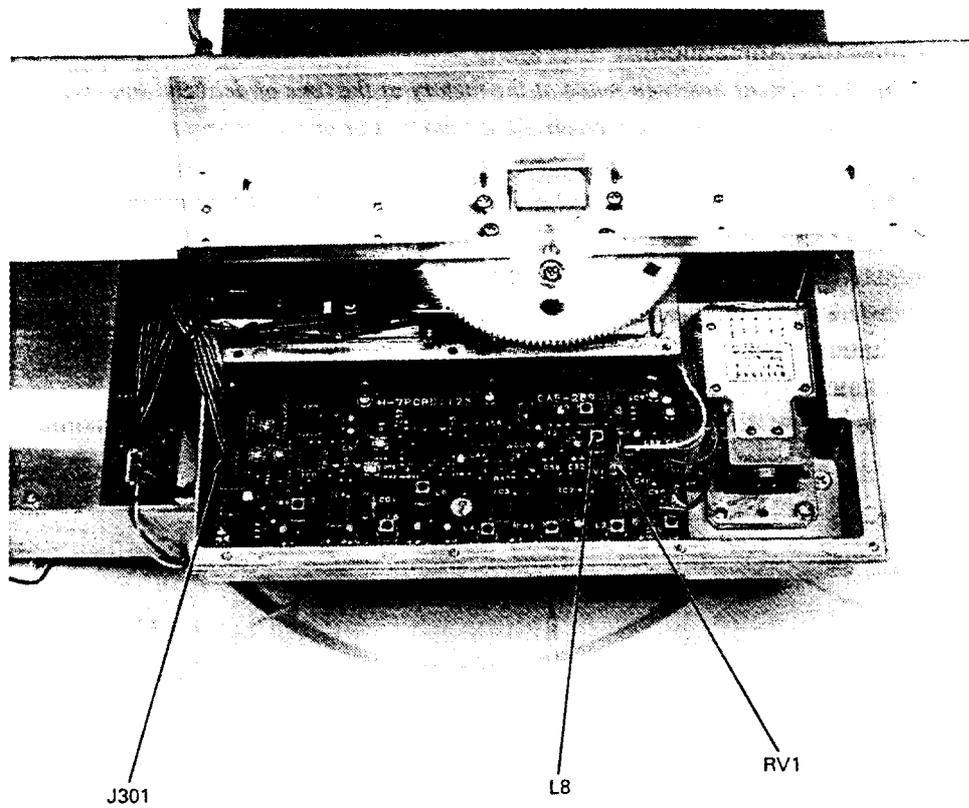
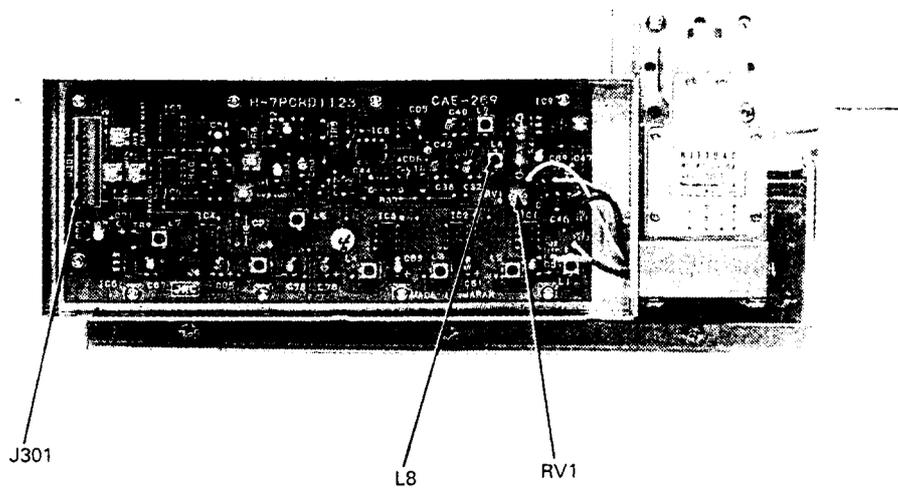

FIG. 5-4 RECEIVER ADJUSTMENT RADOME SCANNER
FIG. 5-5 RECEIVER ADJUSTMENT OPEN ARRAY SCANNER
b) Connect the voltmeter to J301-8 as shown in Fig. 5-4 and Fig. 5-5.